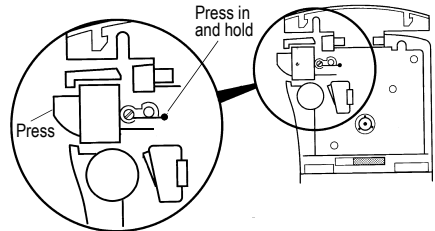

Figure 10
2. Place the tip of a ball-point pen or pencil on the L-shaped piece as shown in Figure 10, and press the piece down.